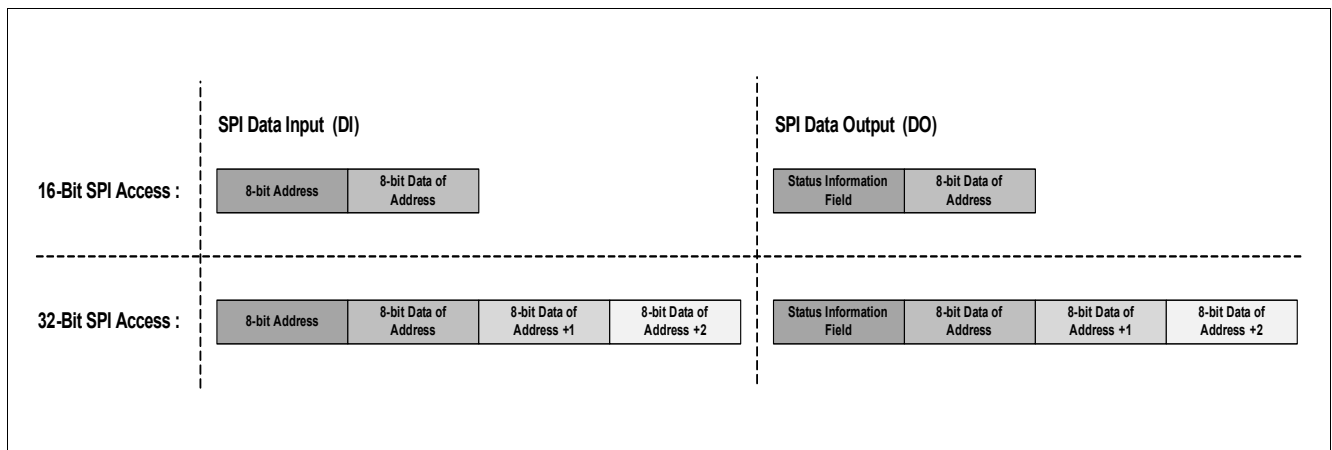

Figure 46 Data access for 16- and 32-bit SPI commands
The TLE9471-3ES V33 is supporting multi-slave operation in full-duplex mode with 16-bit and 32-bit data access (see also Figure 46).
The operation of the 16-bit and 32-bit SPI data access is shown in Figure 46.
- following the data byteThe numbering of following bit definitions refers to the data byte and correspond to the bits D0...D7 and to the SPI bits 8...15. In case of 32-bit SPI commands, the data bytes from the next valid address are accessed (see also Figure 46).